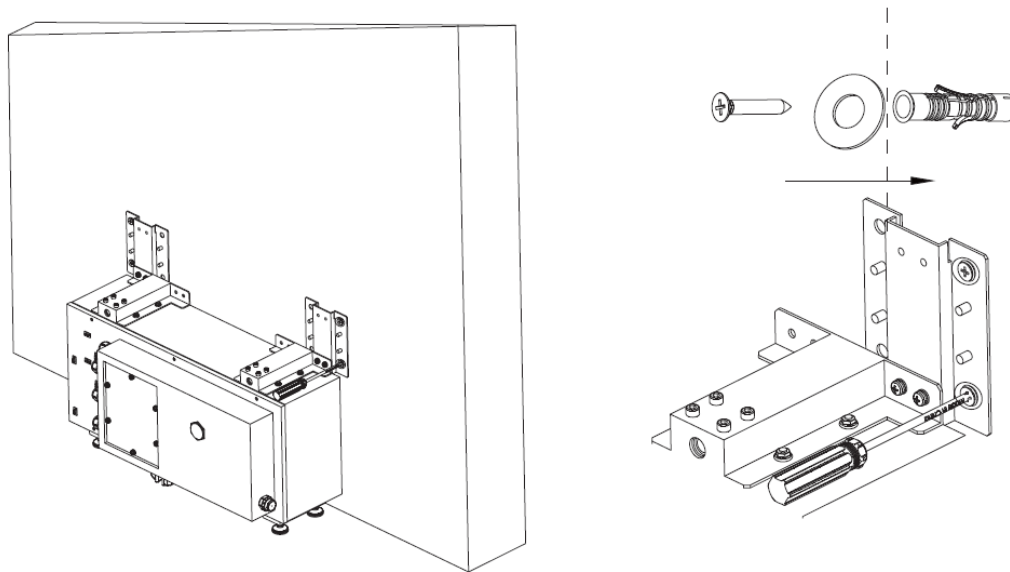

Figure 14 Mounting Battery
Step 5: Insert the expansion tube into the drilled hole. Pass the expansion screw through the gasket and lock with a screwdriver, as Figure 14 shows.